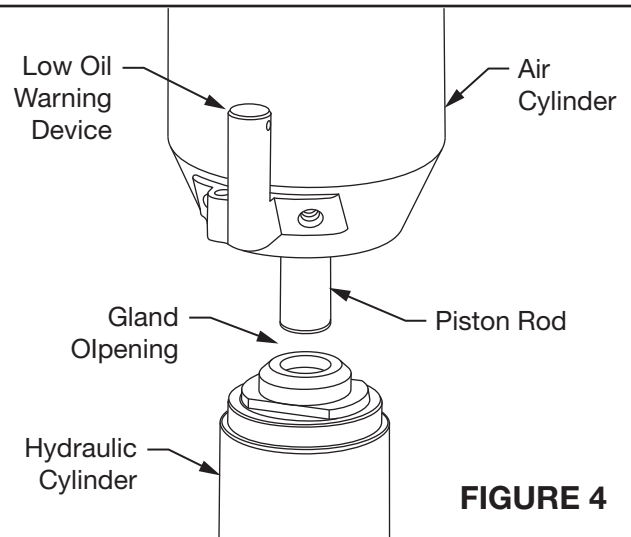

FIGURE 4
NOTE: To assure proper compression, all tools have a low oil warning device mounted on the side of the air cylinder (see Figure 4). This device contains a red rod which extends when the hydraulic oil needs replenishment.
1. Unscrew hydraulic cylinder from air cylinder (see Figure 4).